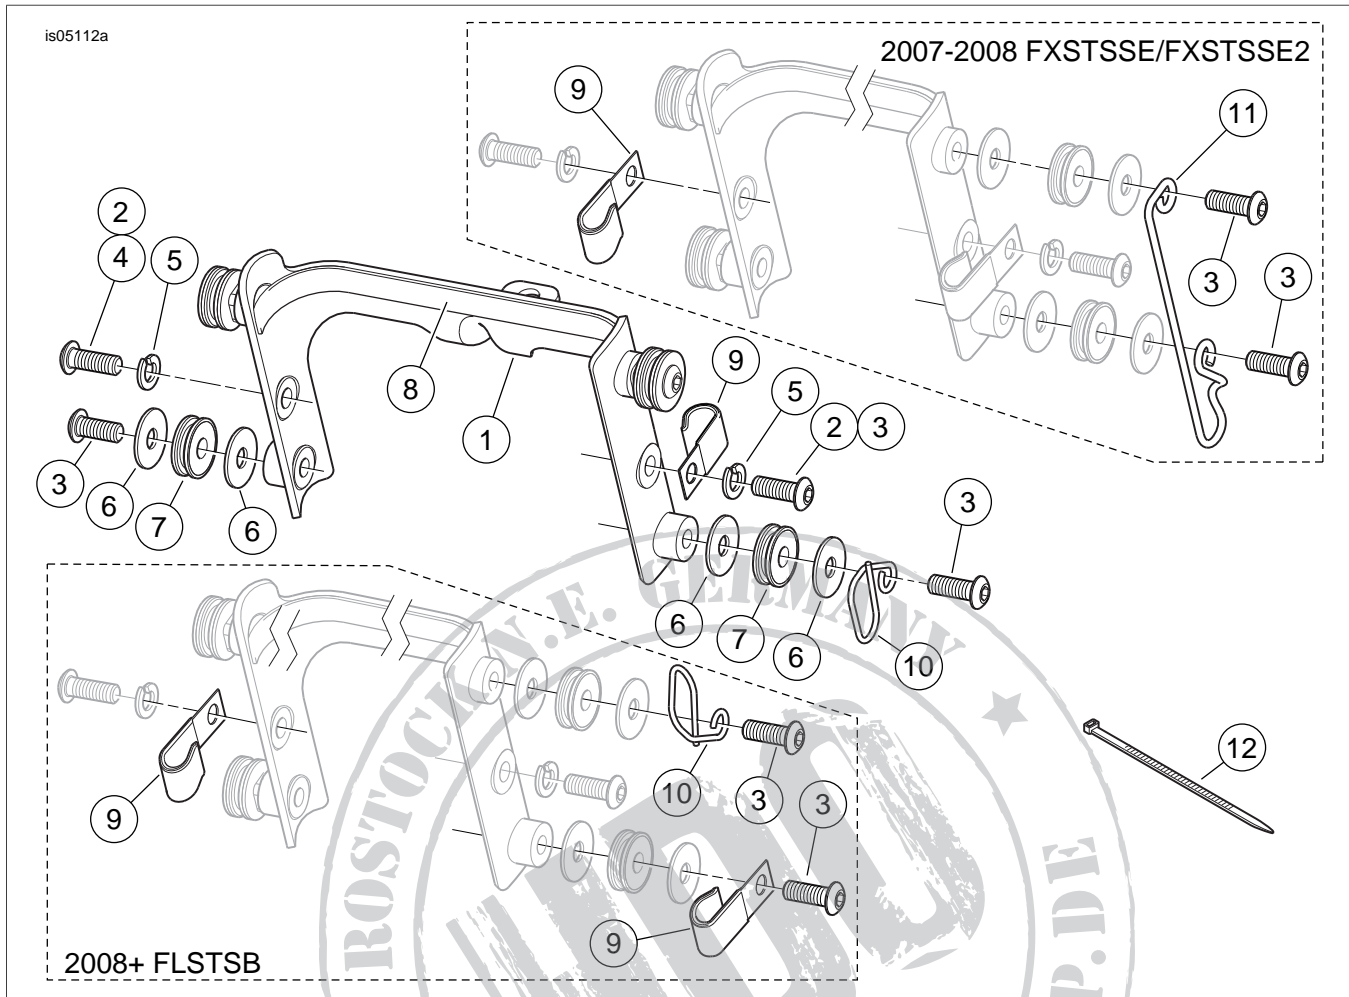

Figure 5. Service Parts: Detachable Windshield Bracket Kit
See Figure 5 and Table 1.
8. See Figure 5. Place foam tape (8) from the kit along the inside of the chrome windshield bracket (1) as shown.
13. See Figure 5. **For ALL models:** Obtain a **new** brake line clamp (9) and two lockwashers (5) from the kit, along with the correct mounting screws for the application as listed below.
for 2007 & 2008 FXSTSSE and FXSTSSE2 models, position the brake line clamp (9) to the windshield bracket as shown in the upper inset in Figure 5. Failure to position the clamp correctly may cause scratches or other damage to the fuel tank.
for 2008 & later FLSTSB models, position the brake line clamp (9) to the windshield bracket as shown in the lower inset in Figure 5. Failure to position the clamp correctly may cause scratches or other damage to the fuel tank.